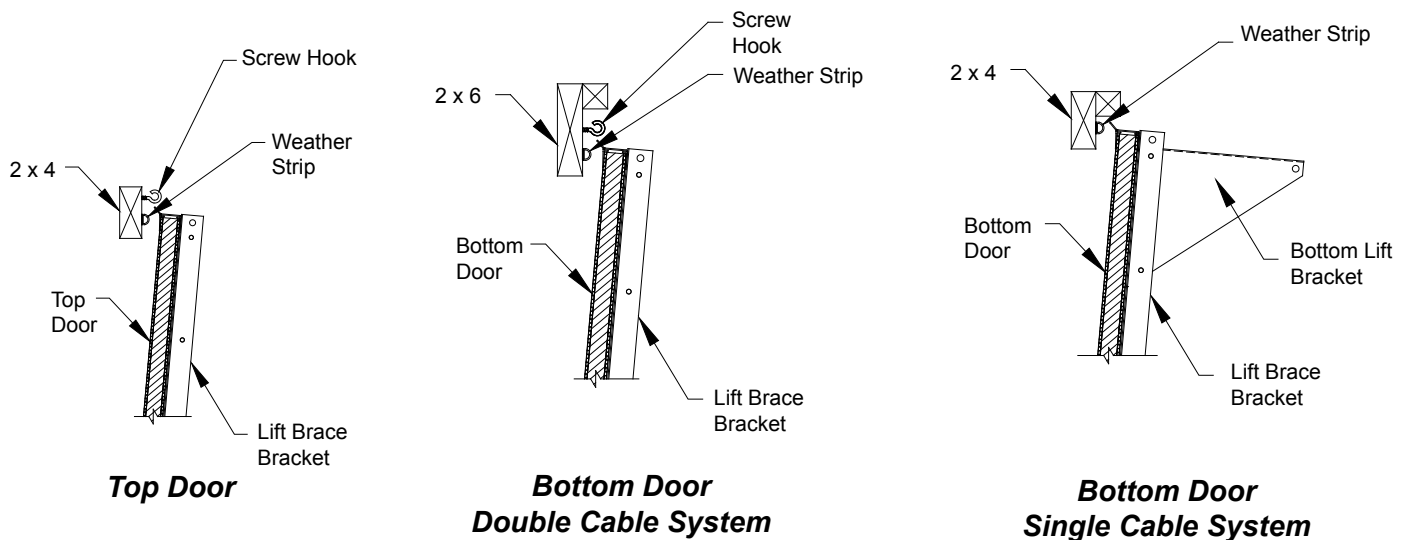

Figure 14
- 18) Seal Adjustment: With the doors in the closed position, mark the frame where the seal makes contact. Open the doors and apply weather stripping ($\frac{9}{16}$ "H x $\frac{3}{4}$ "W) along the mark on the frame. The weather stripping should be on the wall opening side of the mark. This will ensure a tight seal to prevent air leakage. **See Figure 14.**